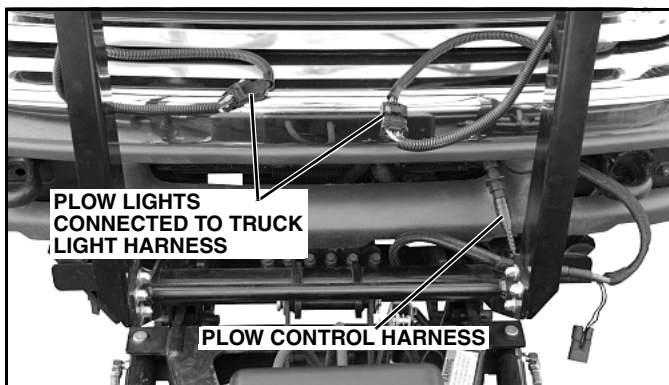

Figure 1-13
8. Plug plow light connectors into mating connectors on truck light harness (See Figure 1-13).